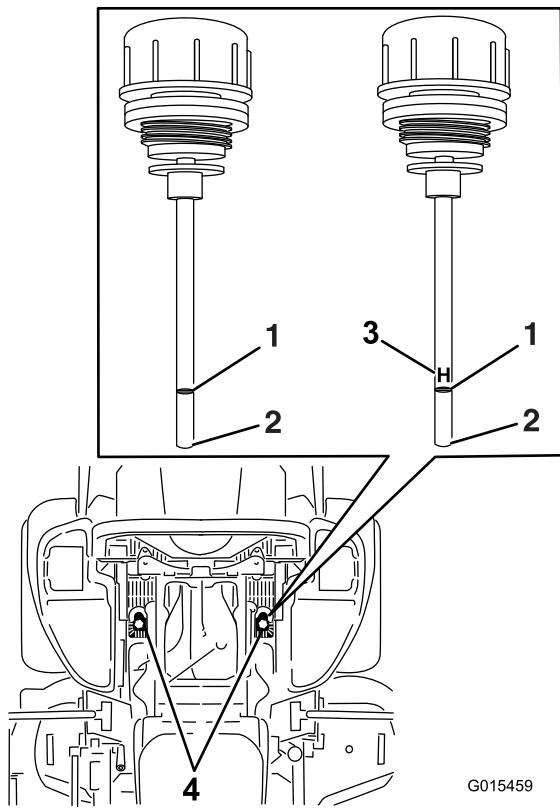

Figure 81
6. Clean the area around the dipsticks of the hydraulic system reservoirs (Figure 81).
7. Remove one dipstick from the hydraulic reservoir (Figure 81).
9. Remove the dipstick and look at the end (Figure 81).